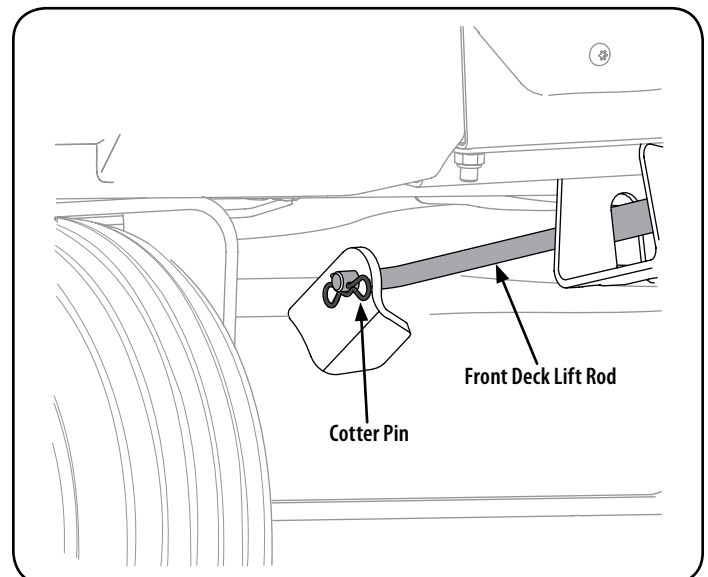

Figure 36
7. Pull the cotter pin out of the front deck lift rod securing it to the deck. See Figure 36. Slide the deck lift rod out of the front hanger bracket.
- Reinstall the front deck lift rod and secure in place with the cotter pin. Refer to Figure 36.